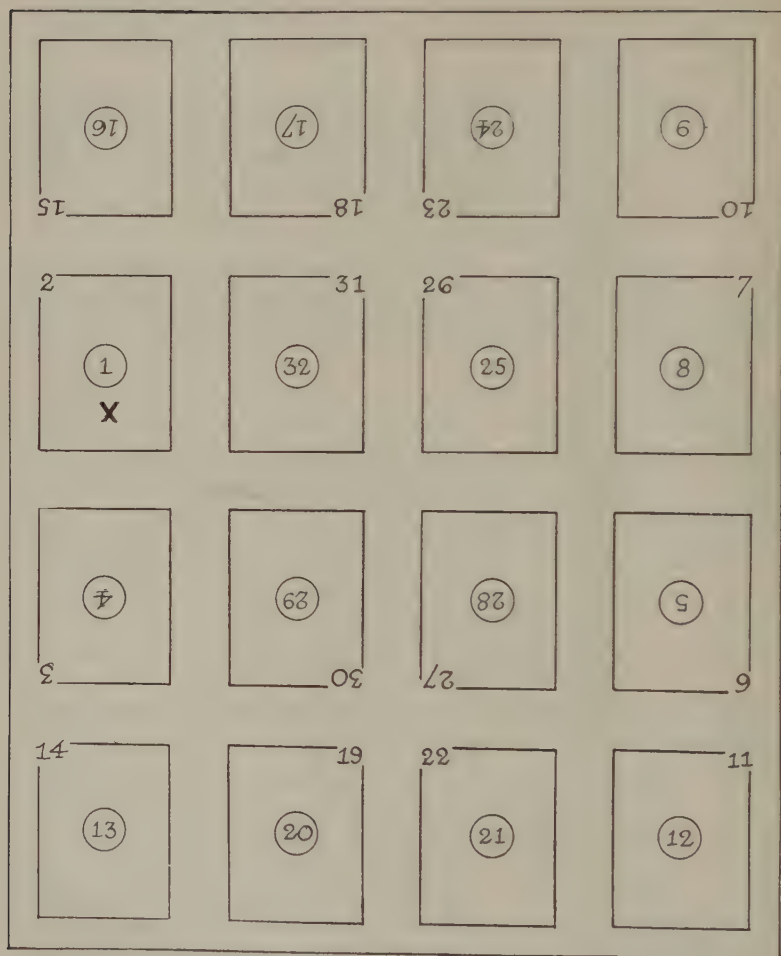

FIG. 256—SINGLE-32 PAGE SHEET, X MARKS LOW FOLIO.
12. It is quite possible that a single or double thirty-two page sheet may be encountered. A single-32 page sheet (i. e., one having 32 pages to be folded into *one* thirty-two page section) will have folios like Fig. 256.